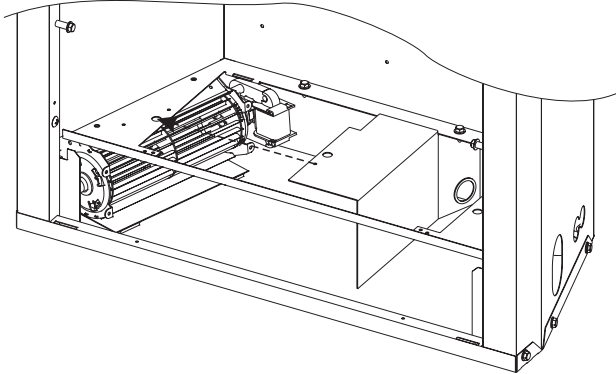

Figure 30
14. Place blower shield side adjacent to motor. Route blower motor wires through Heyco bushing on blower shield side. See Figure 30.